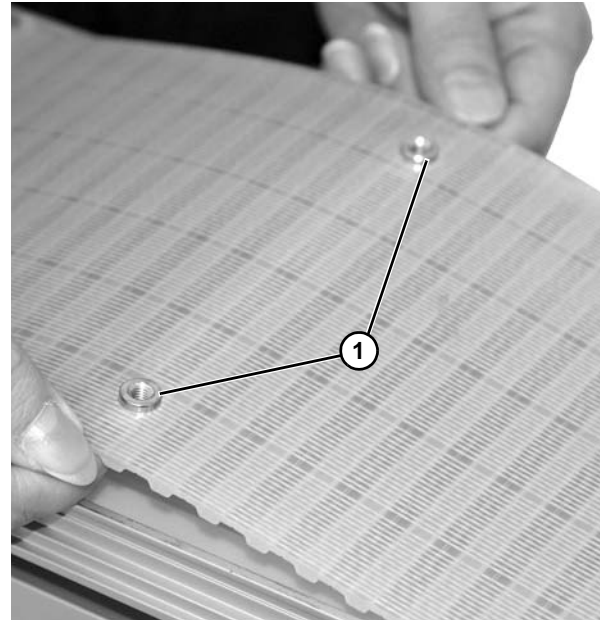

Figure 11
2. Install inserts (Figure 11, item 1) from underside of belt.